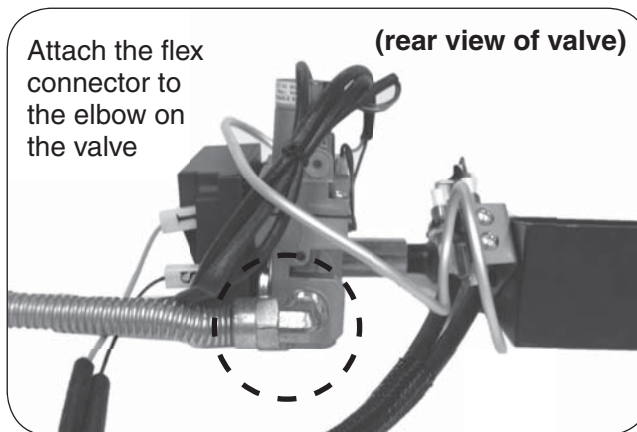
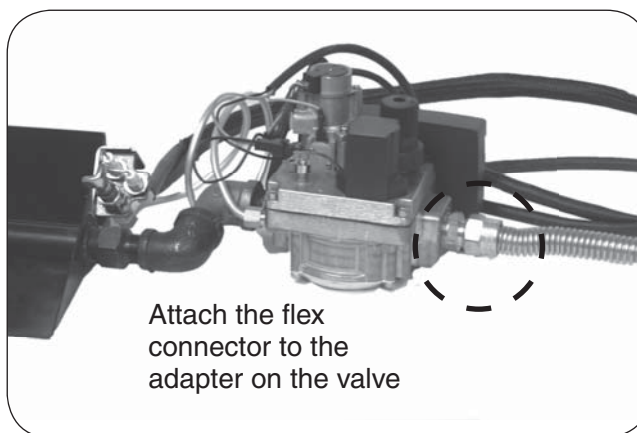

Fig. 8-2 2V models: Attach flex to valve
Fig. 8-3 3V models: Attach flex to valve
2. The valve is shipped with the pilot supply tube bent in an ideal manner to prevent damage/ unsafe operation, and to allow for proper heat shield placement. Maintain this orientation at all times (reference Fig. 8-2 or 8-3).
3. Discard the small adapter included with burner flex connector kit. Attach one end of the flex connector (included with burner) to the elbow/adapter found on the control valve. Tighten securely. See Fig. 8-2 or Fig. 8-3.